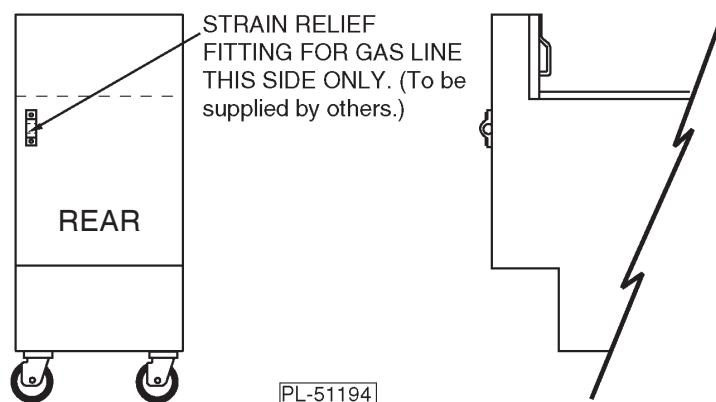

Fig. 3
- For an appliance equipped; with casters, instructions that (1) the installation shall be made with a connector that complies with the Standard for *Connectors for Movable Gas Appliances*, ANSI Z21.69 or *Connectors for Moveable Gas Appliances*, CAN/CGA-6.16, and a quick-disconnect device that complies with the Standard for *Quick-Disconnect Devices for Use With Gas Fuel*, ANSI Z21.41, or *Quick Disconnect Devices for Use with Gas Fuel*, CANI-6.9, (2) adequate means must be provided to limit the movement of the appliance.
- The fryer must be installed with restraining means to guard against transmission of strain to the connector, as specified in the manufacturer's instructions (Fig. 3).